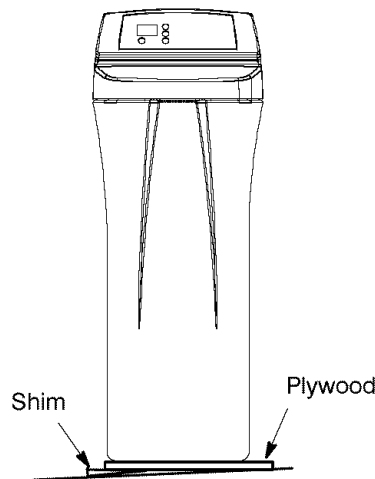

Figure 7 (if needed for leveling)
1. Move the water softener into installation position. Set it on a level surface. If needed, place the water softener on a section of plywood, a minimum of 3/4" thick. Then, shim under the plywood to level the water softener, see Figure 7.